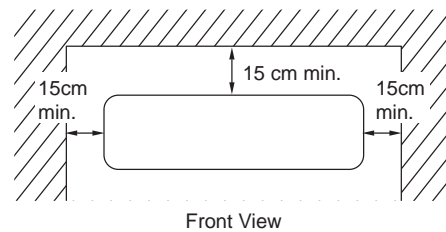

Fig. 1b
- allow room for operation and maintenance as well as unrestricted air flow around the unit. (Fig 1b)